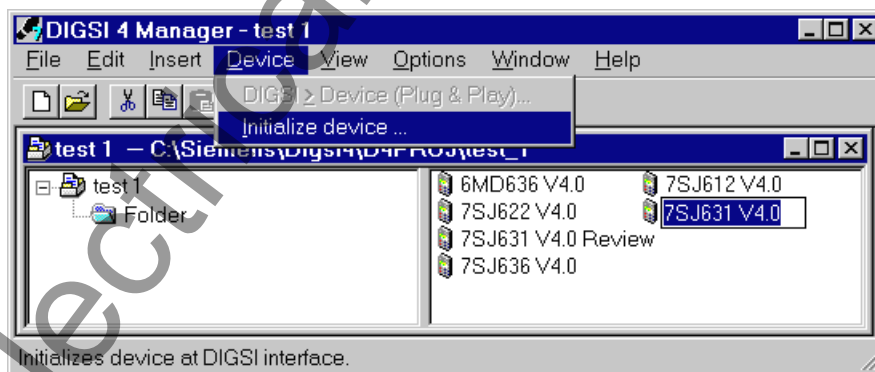

Figure 9-3 Initializing device via DIGSI® 4
- ☐ Select **Initialize device** in the menu **Device** (Figure 9-3).